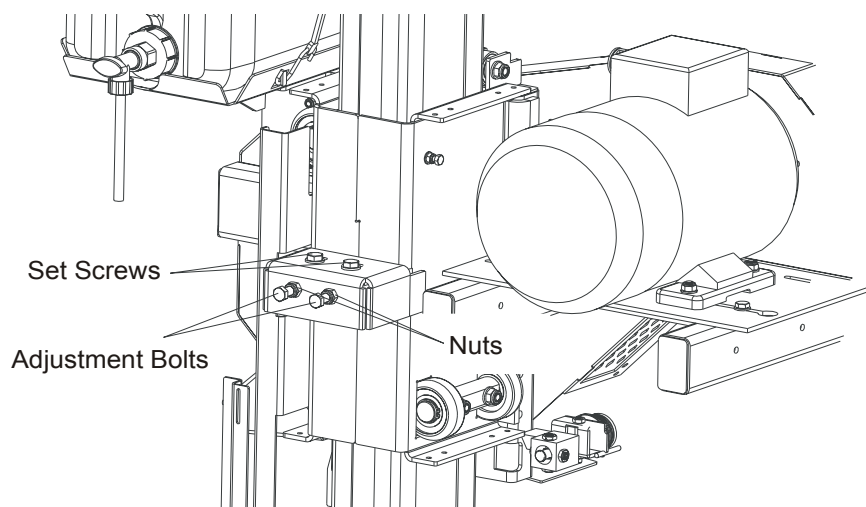
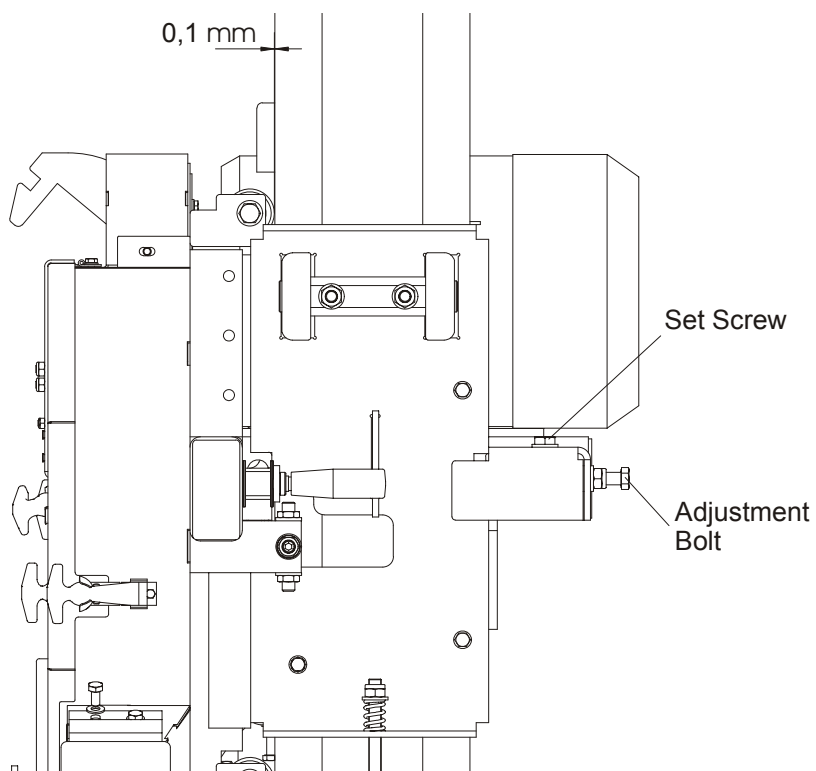

FIG. 5-17
FIG. 5-18
1. Loosen the nuts on the adjustment bolts and the set screws shown in Figure 5-17, adjust the mast guide rollers as shown in Figure 5-18.